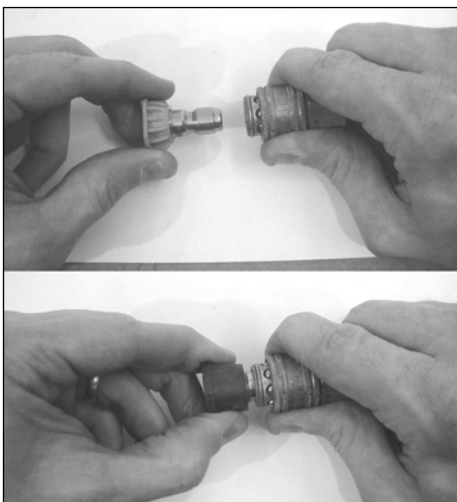

Figure 7 - Quick Connect Tip
7. Install quick connect tip (See Figure 7).